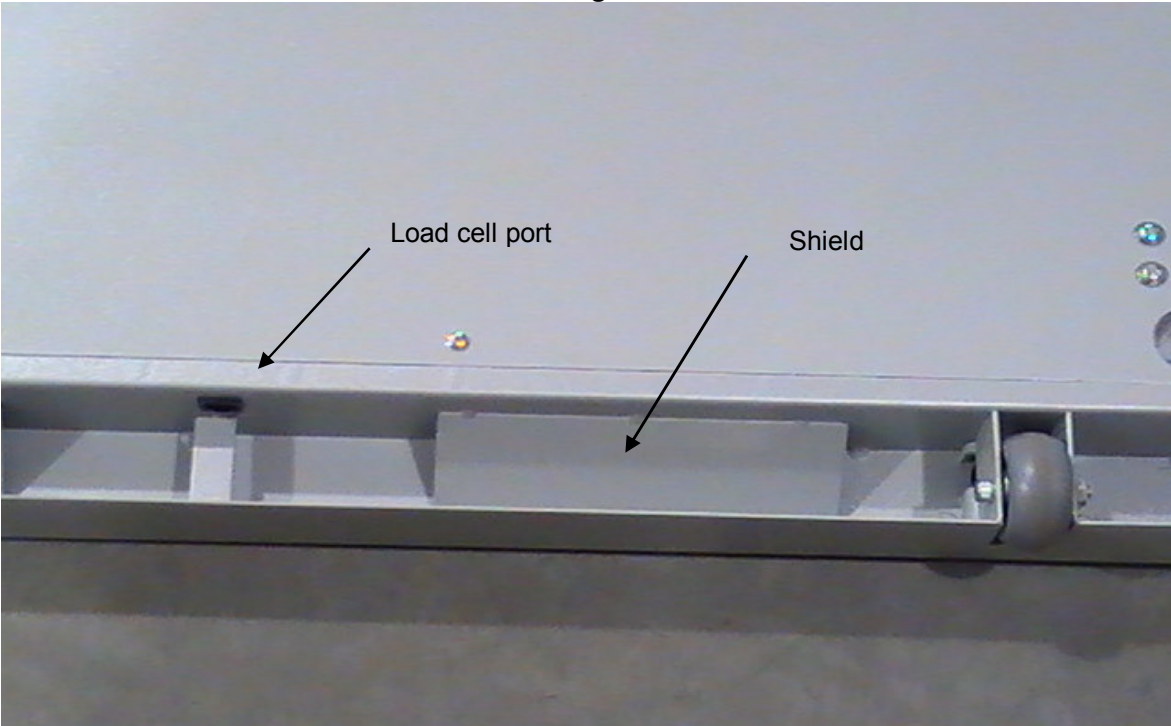

Figure 3
8. Grasp the load cell cable protruding from the bottom of the base assembly and feed it through the protective metal shield. Plug the cable end into the load cell port (see Figure 3).